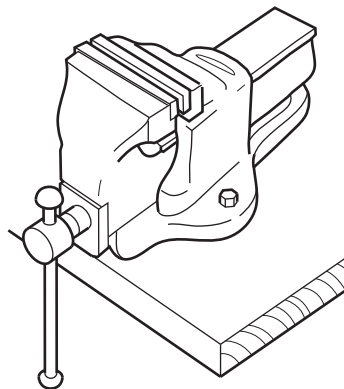

Fig. 13.3
- (b) Fig. 13.3 shows an engineers vice that will be used to hold each of the Ø15 brass tubes while they are sawn to the required length.